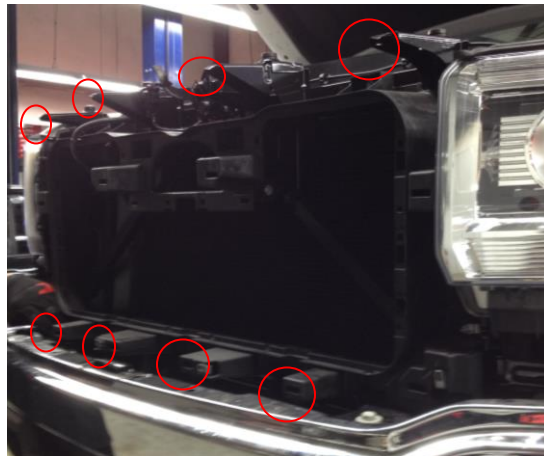

Figure 4a
- E. Remove the fasteners connecting the grille to the frame. Eight bolts, indicated by the red ovals, are located at the top and bottom of the grille and two bolts are located behind the grille (Ref. Figure 4a-d).